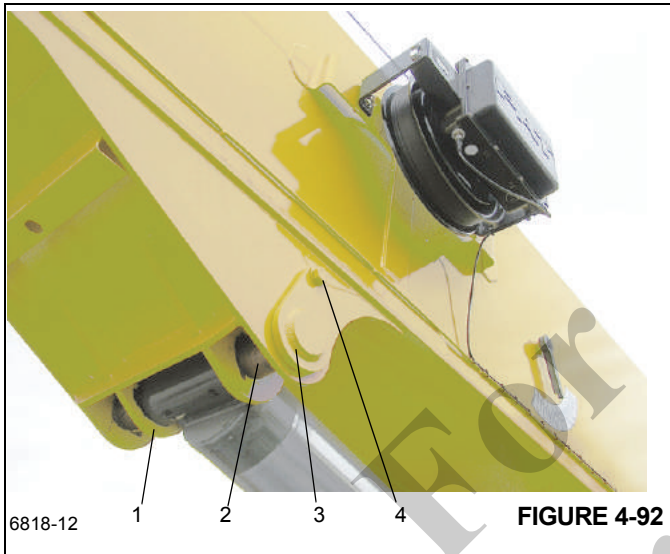

FIGURE 4-92
10. Activate the hydraulic system and extend the lift cylinder rod enough to slide in the lift box (Figure 4-92, 1).
11. Insert the upper lift cylinder shaft (Figure 4-92, 2).
12. Install the upper shaft weldment (Figure 4-92, 3), bolt (Figure 4-92, 4) and washer to the side of the lift box (Figure 4-92, 1), securing the upper lift cylinder shaft (Figure 4-92, 2) on the boom.